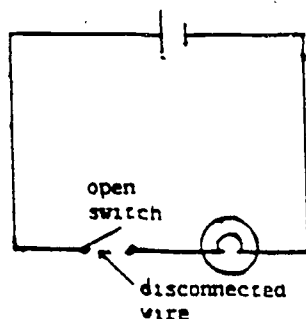

Fig. 08
2. Disconnect the wire at one end of the lamp. See fig. 08.